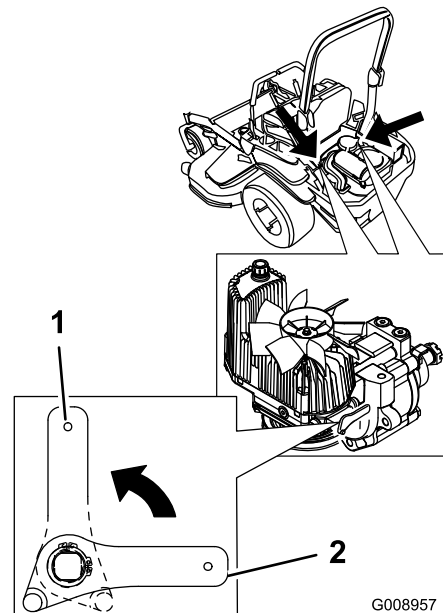

Figure 38
2. Rotate the release valve levers vertically to push the machine. This allows hydraulic oil to by-pass the pump enabling the wheels to turn (Figure 38).
4. Rotate the release valve levers horizontally to run the machine (Figure 38).